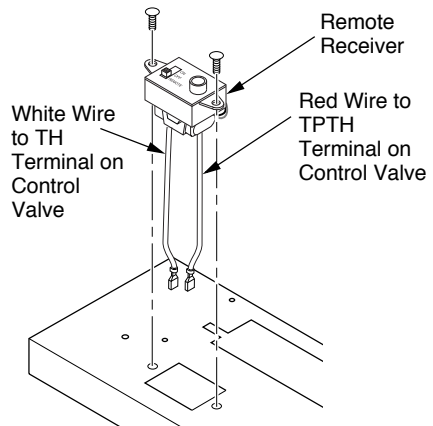

Figure 29 - Installing Remote Receiver
4. Attach terminal wires to battery (see Figure 29).
5. Connect wires from remote receiver to control valve as shown in Figure 29.
6. Install remote receiver unit onto remote/blower bracket using screws provided (see Figure 29).